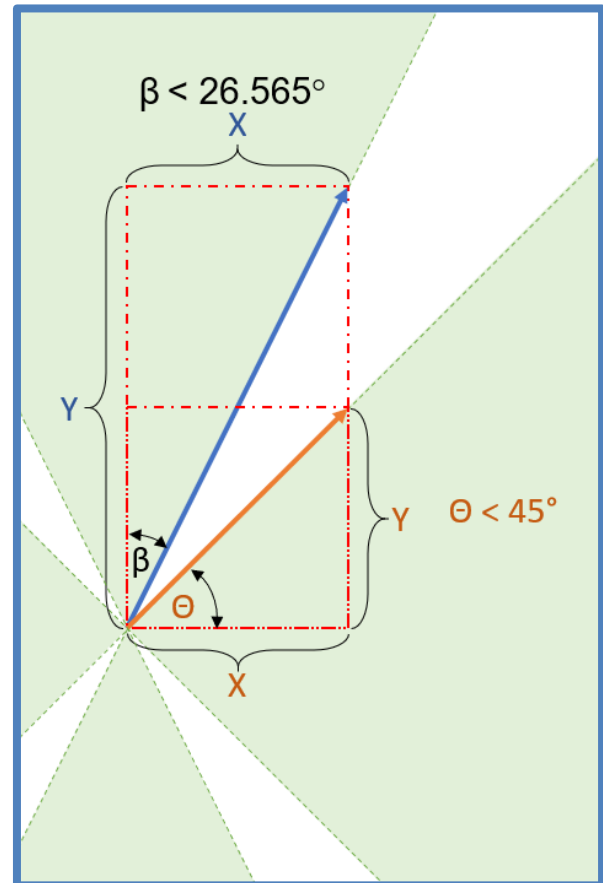

Figure 2.1 *Swipe Gesture Requirements*
2. The distance in (1) is covered within the time specified in the Swipe Timer Limit register (0x8C, byte 0).
3. The angle of the swipe gesture as determined by its starting coordinate and the coordinate at which the touch is released, does not exceed the thresholds as shown in Figure 2.1.